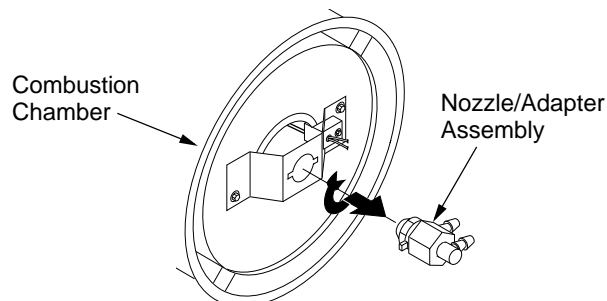

Figure 15 - Removing Nozzle/Adapter Assembly
4. Turn nozzle assembly 1/4 turn to left and pull toward motor to remove (see Figure 15).
10. Attach nozzle assembly to nozzle adapter bracket (see Figure 15).